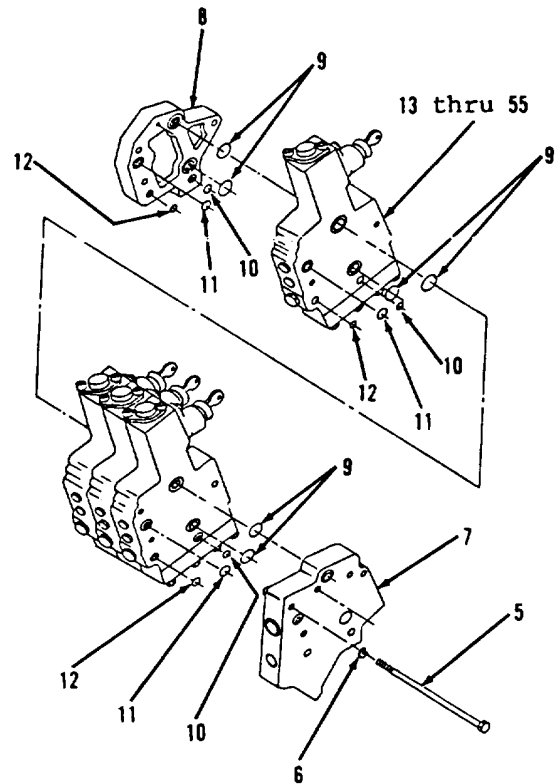
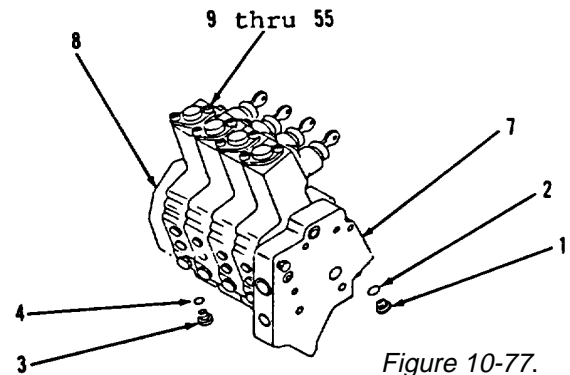

Figure 10-78.
Figure 10-77.
3. Install new preformed packings (12 thru 10) and six new preformed packings (9, Figure 10-78).
4. Position items 55 thru 13 as an assembly and manifolds (8 and 7) as matchmarked.
5. Install three lockwashers (6) and bolts (5).
6. Install new preformed packing (4) and plug (3) in manifold (8, Figure 10-77).
7. Install new preformed packing (2) and plug (1) in manifold (7).